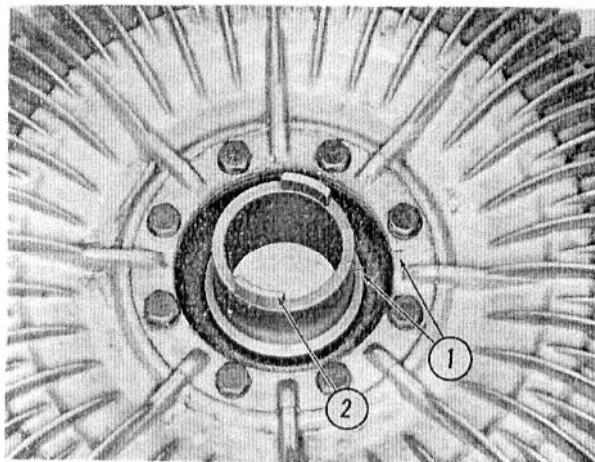

Fig. 6 - Scribing the Impeller and Hub
10. If the impeller hub seal is to be replaced, mark the impeller and hub before disassembly. See Fig. 6. Remove the impeller hub mounting bolts. Remove and discard the ring seal.